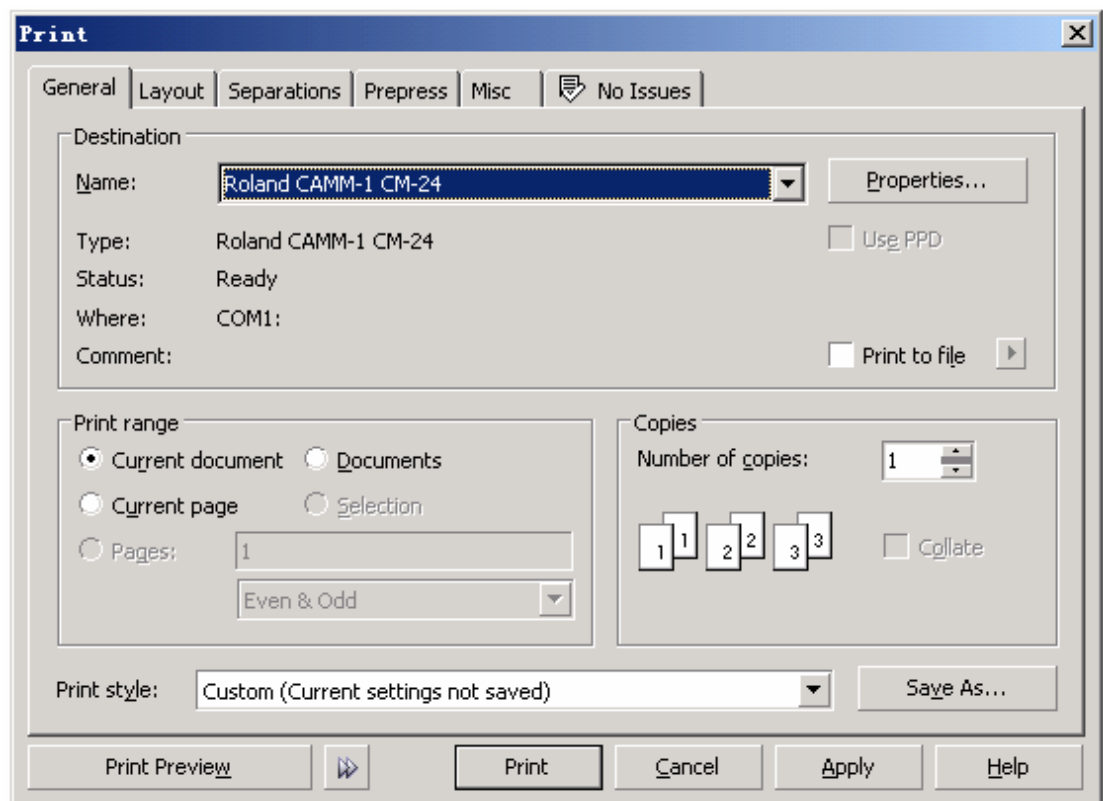

Figure 11
**Step 7:** Click Print button on CORALDRAW, shown the dialogue as Figure 11:
In the dialogue of Figure 11, please select the printer name on Name option. **Note that printer name must be right select. If you choose a wrong printer, it will also cause file have been sent but the cutter has no response.** Otherwise, there's COM selection on Where option. **Please confirm again if the COM number is correspond with the port marked down in Step 2.**